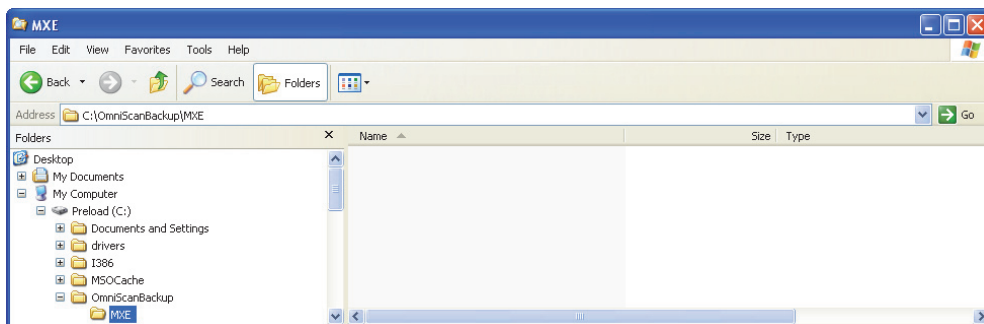

Figure 4-25 Creating a \MXE folder in the backup folder
- In the backup folder, create a folder for each application that you use on your OmniScan MX instrument (Figure 4-25 on page 87 presents an example for the MXE application).